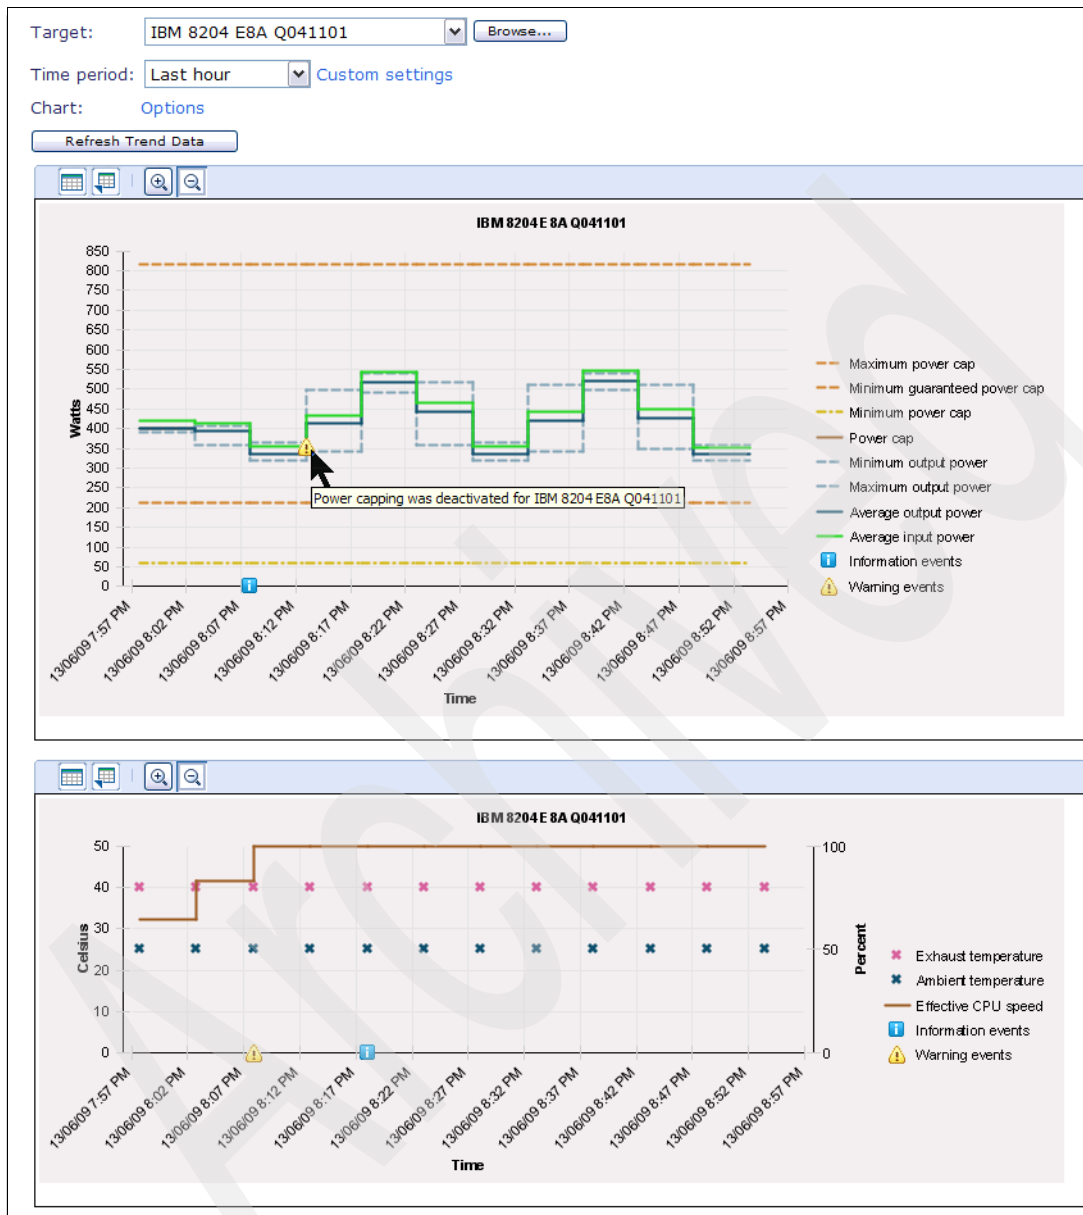

Figure 7-76 Removing a policy - 8
10. Confirm that the power savings or power capping setting has been disabled by checking the trend data. The trend data for our example system is shown in Figure 7-76 on page 360.